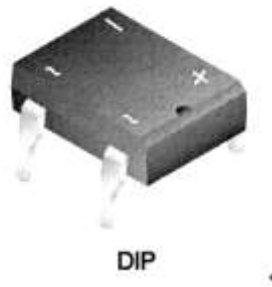

Fig. 9 Bridge-rectifier chip
**VIII Experimental Work** – The chip DF01M is shown below. It consists of 4 diodes arranged in such a manner that it is a bridge-rectifier. This chip is shown in Fig. 9. The two points denoted by